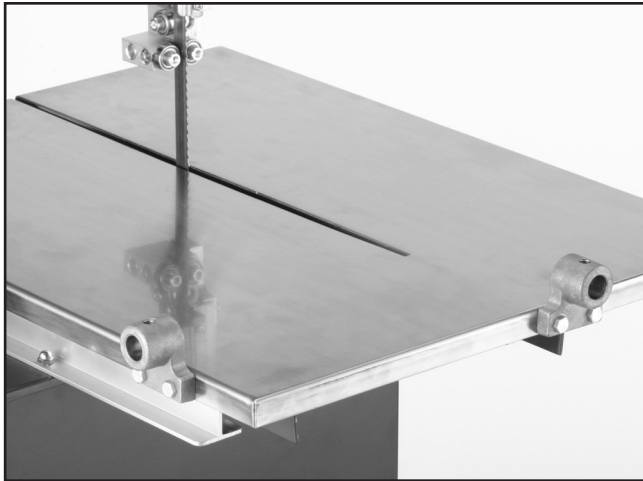

Figure 16. Rail brackets installed on table.
1. Mount the two rail brackets to the edge of the table with the hex bolts, as shown in **Figure 16**.